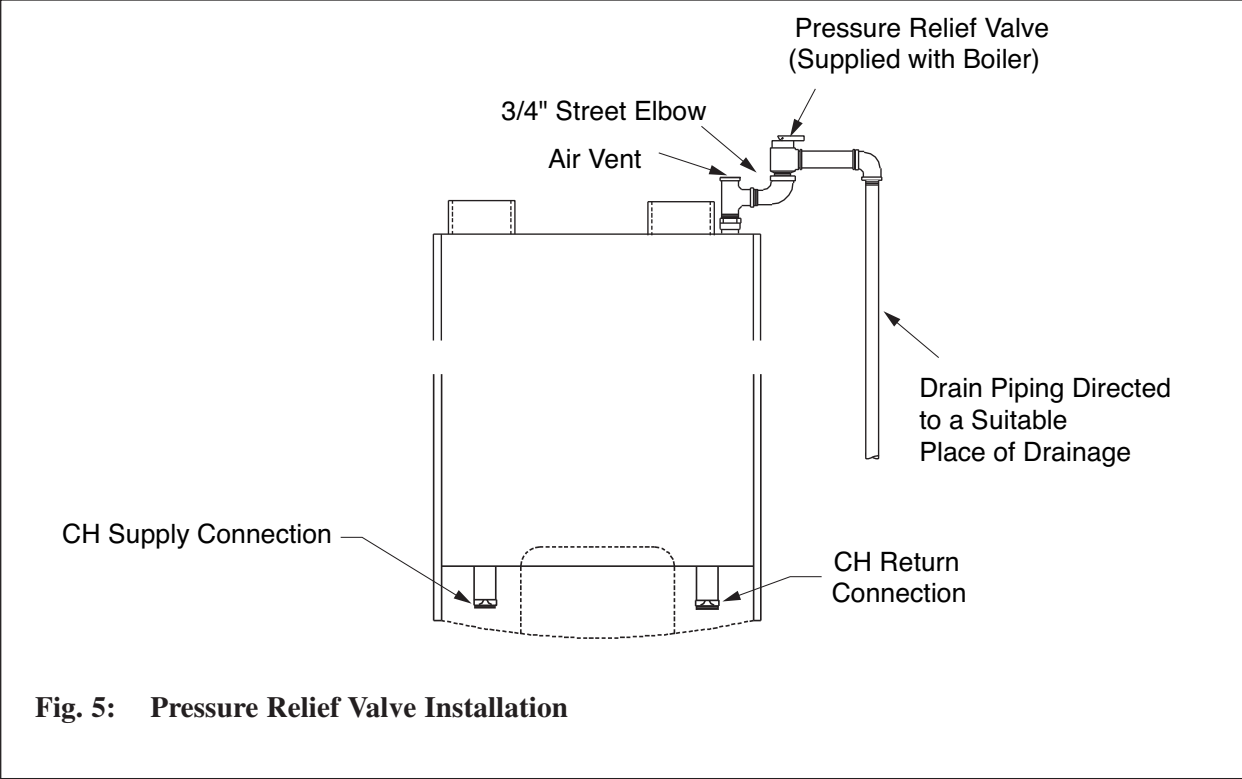

Fig. 5: Pressure Relief Valve Installation
1. The PRESTIGE Excellence is supplied with a 30 psi pressure relief valve and must be piped using the PRV connection as shown in Fig. 5 page 15.